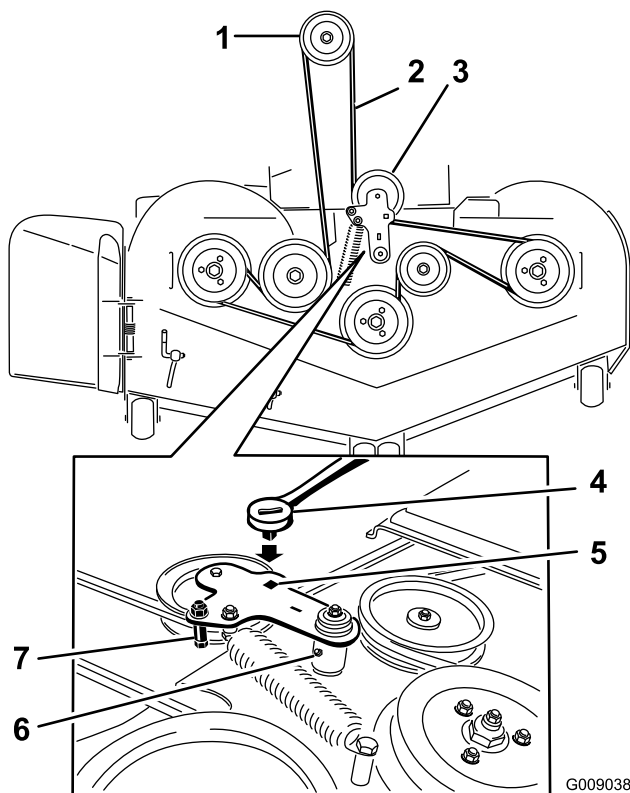

Figure 74
5. Use a ratchet in the square hole in the idler arm to remove tension on the idler spring (Figure 74).
7. Remove the belt guide on the spring-loaded idler arm (Figure 74).
9. Install the new belt around the mower pulleys and the clutch pulley under the engine (Figure 74).
10. Install the belt guide on the idler arm (Figure 74).
11. Using the ratchet in the square hole, install the idler spring (Figure 74).